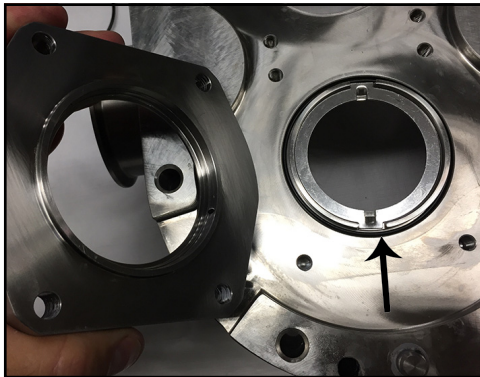

Figure 153 - Remove seal housing
11. Remove the seal housing (040-U3 pictured). The arrow in Figure 153 shows the seal housing O-ring location on pump sizes 134-U3 and smaller.
12. (134-U3 and smaller) Remove the seal housing O-ring from around the shaft ring. See Figure 153 for the seal housing O-ring location.